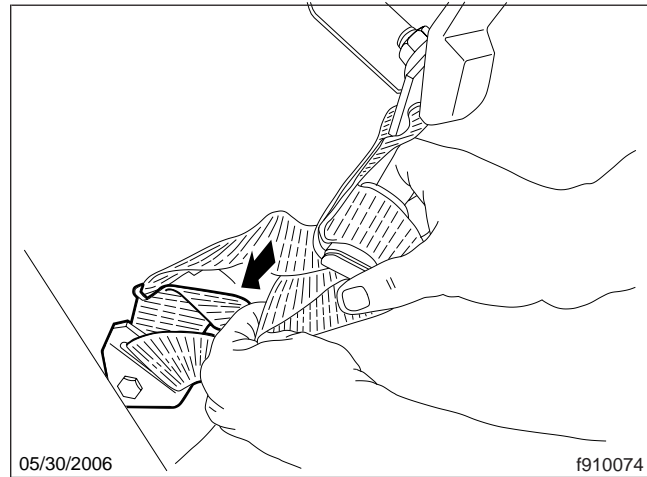

Fig. 5.16, Shortening the Tether Belt
3. Adjust the seat to the highest ride position. With no weight on the seat, tighten each tether belt by pulling the middle webbing strap away from the buckle to remove all slack. See Fig. 5.16. Tether belts should not be so tight as to restrict movement of suspension seats. Be sure the straps are not twisted.